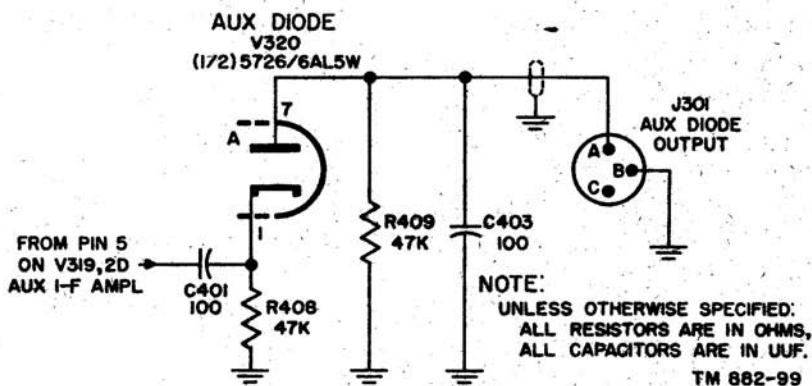

Figure 50. Auxiliary diode.
c. *Auxiliary Diode* (fig. 50). One-half of twin diode V320 is used as an auxiliary detector. The other half of tube V320B is the carrier meter rectifier. Resistor R408 is the cathode resistor. The signal from second auxiliary if. amplifier V319 is coupled to V320 through C401, and the output voltage is developed across R409 and C403. The rectified output of approximately 5 volts is available at J301, AUX. DIODE OUTPUT jack on the rear apron of the main unit (fig. 12). This